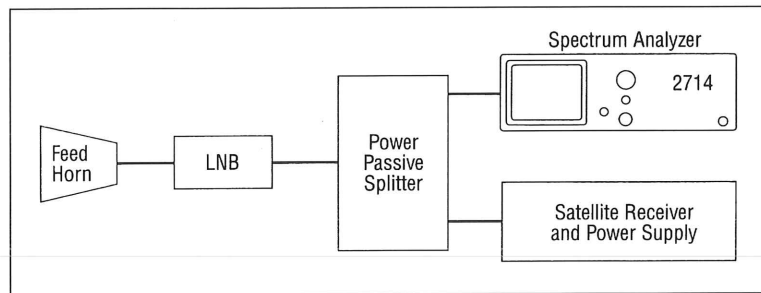

Figure 25. Equipment setup for satellite down-link measurements.
The 2714/2715 is especially useful for setting up and maintaining satellite down-link stations. Locating satellites, pointing antennas, lining up feed horns, identification of interfering signals, and measuring carrier-to-noise are all possible. This section deals with problems relating primarily to optimum geometrical orientation of antenna components. The general equipment set up is as indicated in Figure 25. For this sample procedure, a 2714/2715
Power Passive Splitter and Receiver/Power Supply as shown in Figure 25.
1. Connect the equipment as shown in Figure 25.